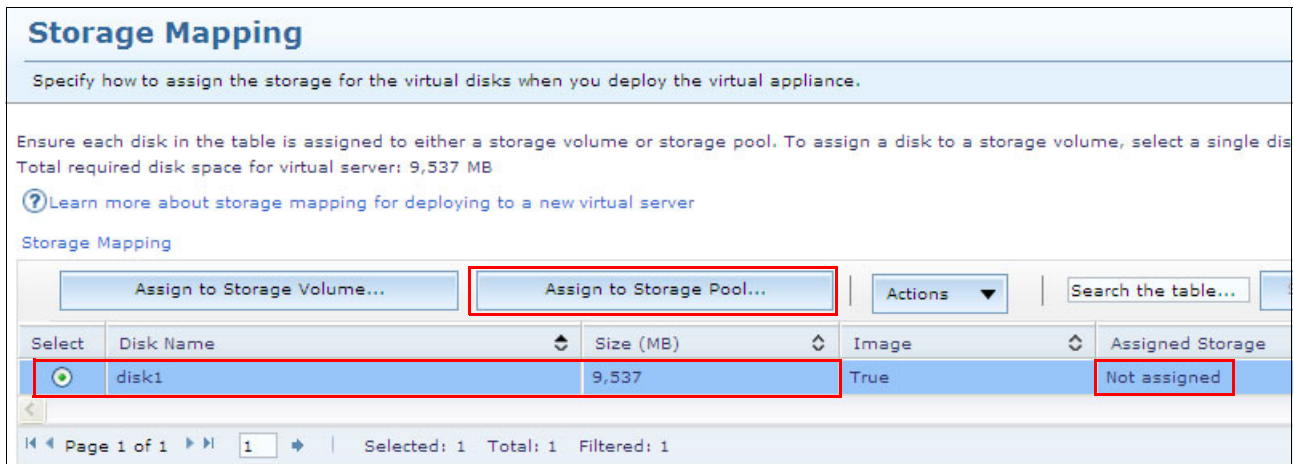

Figure 10-132 Storage Mapping window
- Figure 10-132 shows storage mapping. You can choose to assign each disk in the table to either a storage volume or storage pool. For this example, deploy a disk size of 9,537 MB. Click **Assign to Storage Pool**.